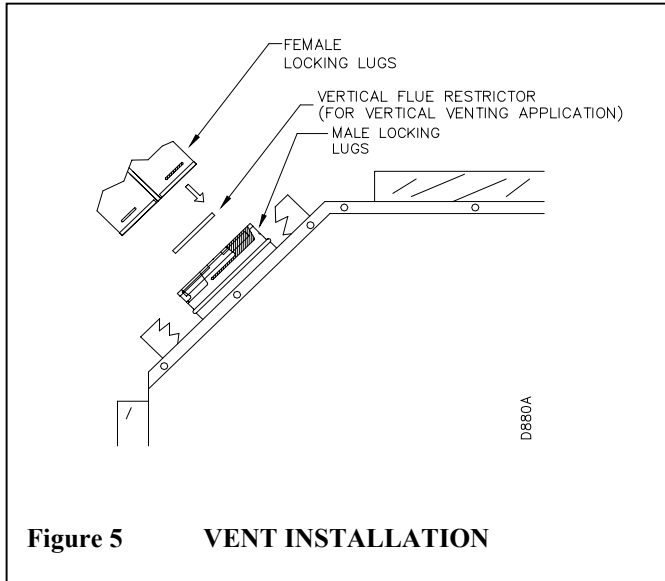

Figure 5 VENT INSTALLATION
1. Install pipe to fireplace collar adapter located on back of unit at a 45 deg. Angle. Connect our starting pipe to a 45 deg. Starting section by sliding it over the collar adapter on the fireplace. Twist-lock for proper installation check to insure proper connection (see figure 5).
6. For vertical venting application, install vertical flue restrictor into inner collar of fireplace as shown in figure 5.